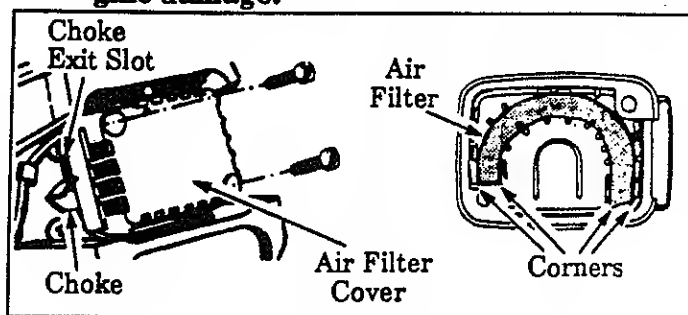

Figure 24
- a. Loosen the two Screws on the Air Filter Cover enough to remove the Cover from the Engine. Figure 24.
- b. Remove the Air Filter from the Cover. Figure 24.
- e. Reinstall the Air Filter Cover, making sure the Choke Exit Slot (Figure 24) is placed over the Choke Lever.